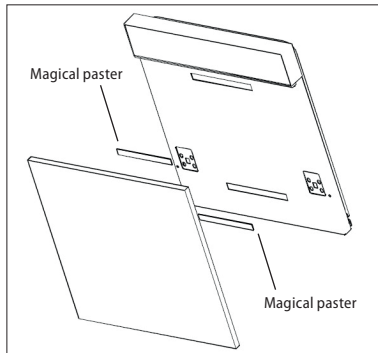

Fig. 14a
- Using the fixing strips, place the cover plate on the door of the dishwasher (Fig. 14a).